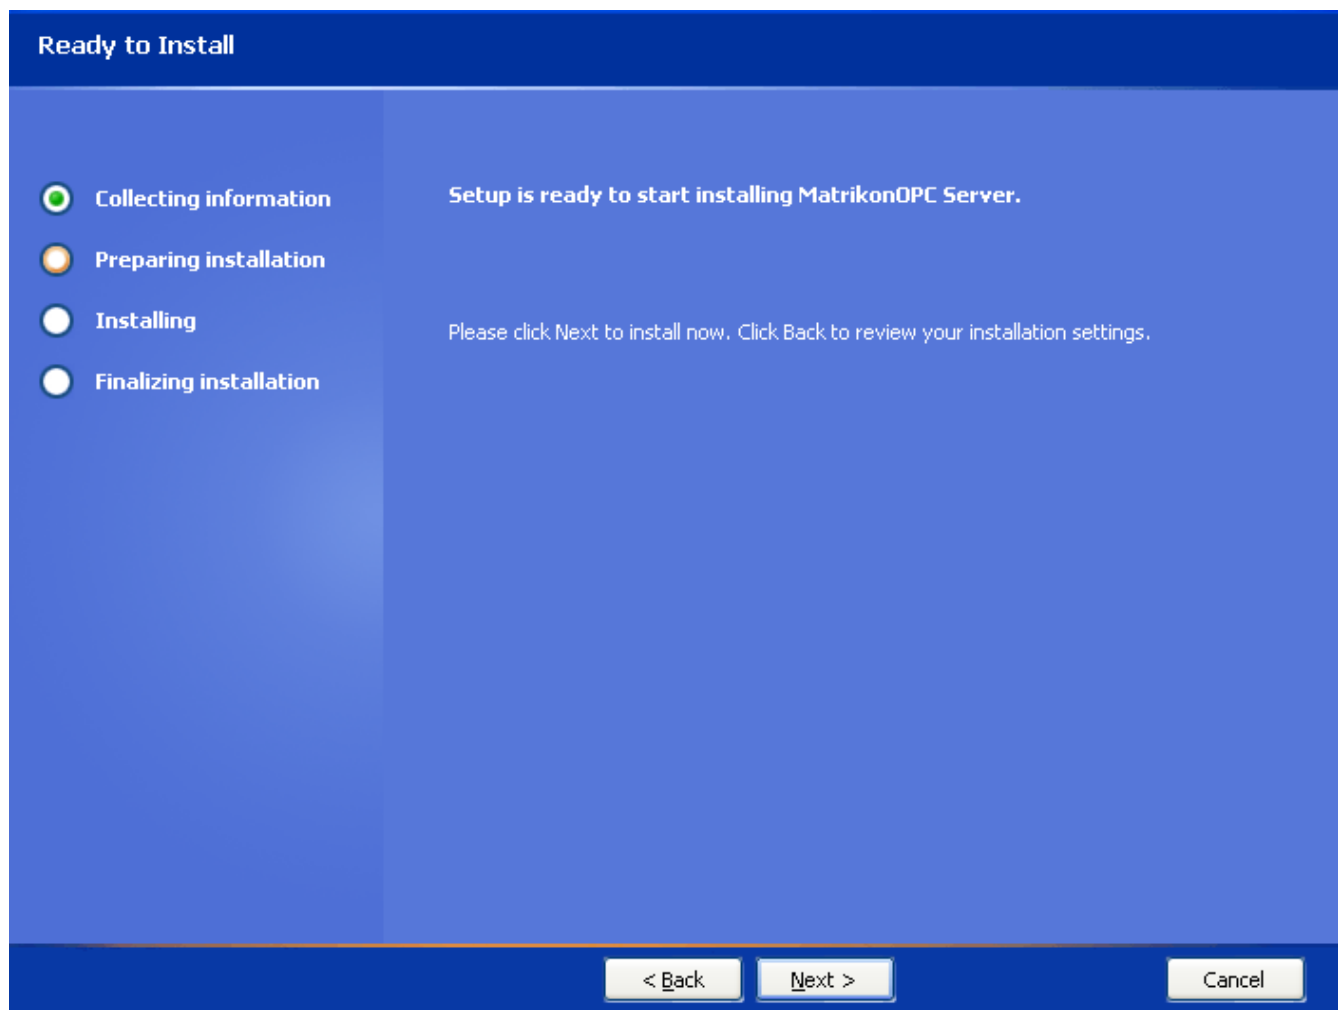

Figure 66 - Ready to Install Screen
19. Click on the **Next** button. The **Ready to Install** screen (Figure 66) appears.